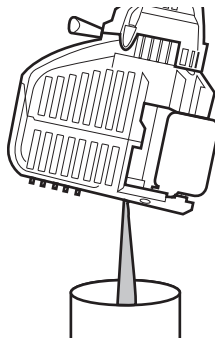

Fig. 25
- If the oil level is too high, tip the unit and drain the excess oil into an appropriate container (Fig. 25).
3. Tip the unit vertically to pour the oil out of the oil fill hole and into a container (Fig. 25). Allow ample time for complete drainage.